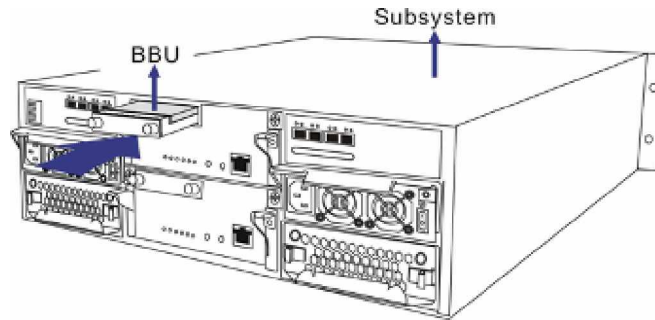

Figure 5-10: Installing the BBU
- Step 2. Install the new BBU.** Align the BBU with the slot, and then gently push the BBU into the slot. (See *Figure 5-10*)